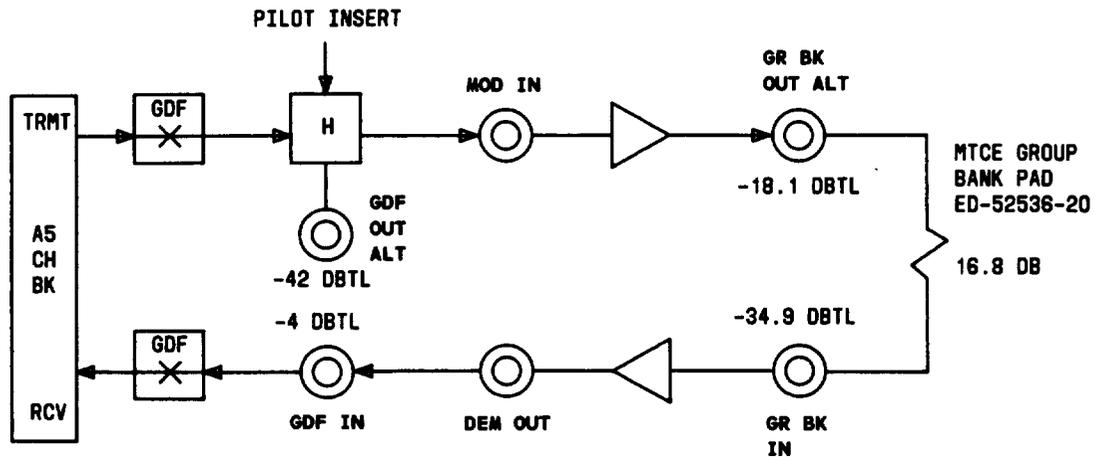

Fig. 6—Typical Channel Bank Equal-Level Looping Arrangements—LMX-3
| 4 | At LMX-3 equipment, make looping connections as shown in Fig. 6. |
- 4 At LMX-3 equipment, make looping connections as shown in Fig. 6.